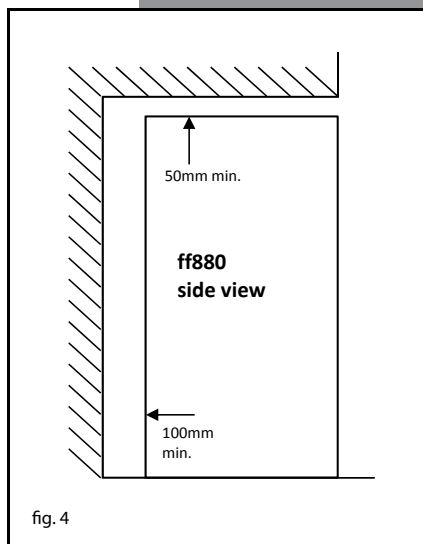

fig. 4
- If the appliance is to be installed enclosed between units, please ensure there is a 50mm gap above the appliance and a 100mm gap at the rear of the appliance to the ceiling or any furniture above (fig. 4).